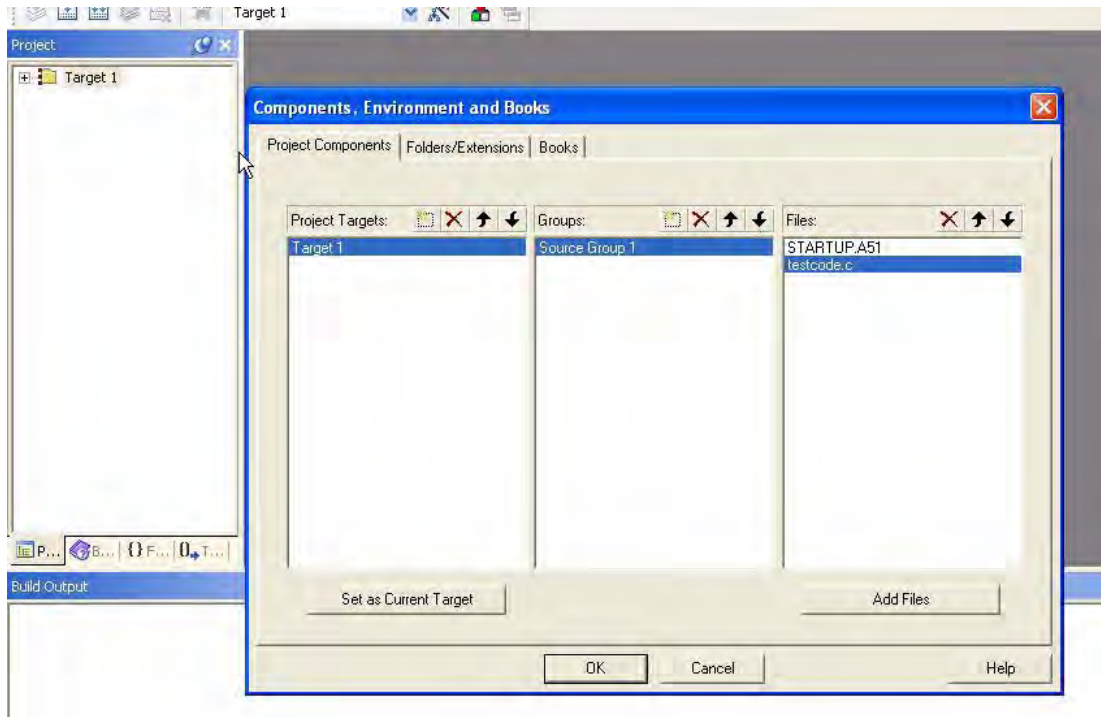

Figure 15. Adding The testcode.c File To The Project
5. In the **Components, Environment, Books** dialog that appears, click the **Add Files** button, shown in Figure 15. Navigate your way to your source code, select the file(s), and click **OK**.